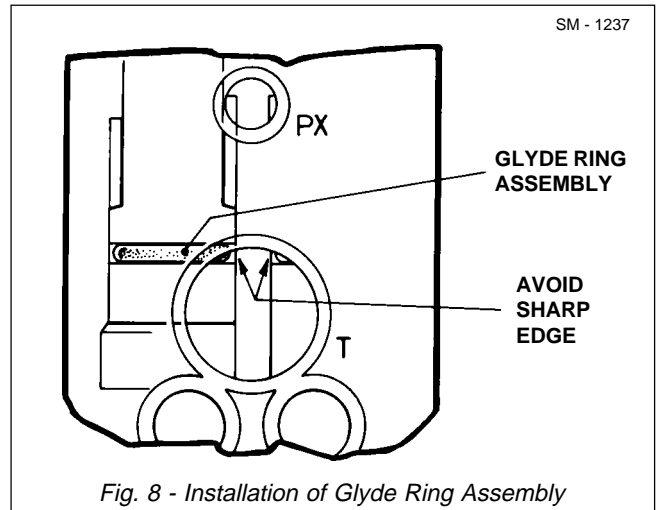

Fig. 8 - Installation of Glyde Ring Assembly
1. Lightly lubricate glyde ring assembly (3) and install the 'B1' actuator plunger (2) into the 'B1' circuit. Be careful not to damage or cut the glyde ring during installation. Observe glyde ring assembly (3) through tank port 'T' as actuator plunger (2) is being installed.
Note: It may be necessary to work the glyde rings past the sharp edge in valve body (20) to prevent damage to the seal. Make sure actuator plunger (2) is completely seated and bottomed. See Fig. 8.